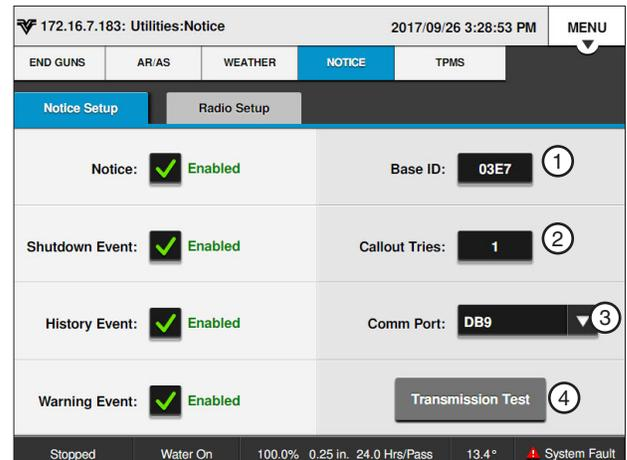

Figure 79-1 Notice Screen
Use Base ID to set the BaseStation identification number in the control panel. The factory default setting is 9999. Refer to Figure 79-1.
1. Push **Menu**, **Utilities** and **Notice** to display the Notice screen. Refer to Figure 79-1.
To transmit current status information, push **Menu**, **Utilities** and **Notice** and push the **Transmission Test** button. Refer to Figure 79-1.